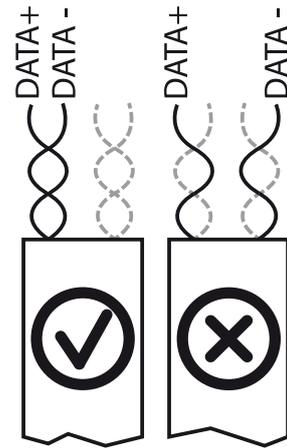

Figure 21: RS485 bus: Assignment of twisted-pair wires
- Observe the wire pairing when connecting DATA+ and DATA- (see Figure 21 on page 28)